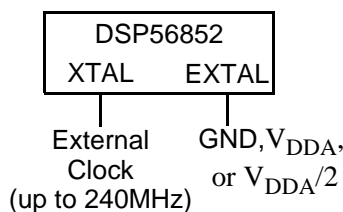

Figure 9. Connecting a High Speed External Clock Signal using XTAL
The recommended method of connecting an external clock is given in Figure 9. The external clock source is connected to XTAL and the EXTAL pin is held at ground (recommended),  $V_{DDA}$ , or  $V_{DDA}/2$ . The TOD\_SEL bit in CGM must be set to 1.
1. See **Figure 9** for details on using the recommended connection of an external clock driver.